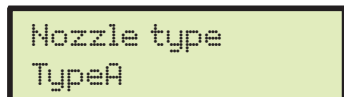

Fig. 66
- Then the computer automatically passes to the selection of the nozzle to be set (Fig. 66).